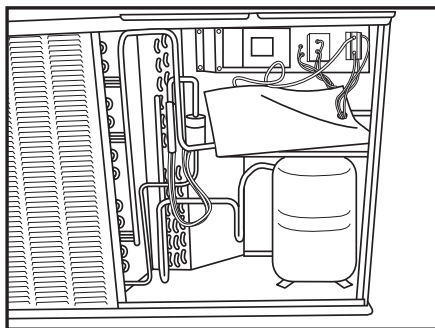

Figure 6 – Removal of Right Front Panel
- a. Removal of the right front panel, opposite the duct flanges will give access to the component above. (See Figure 6.)